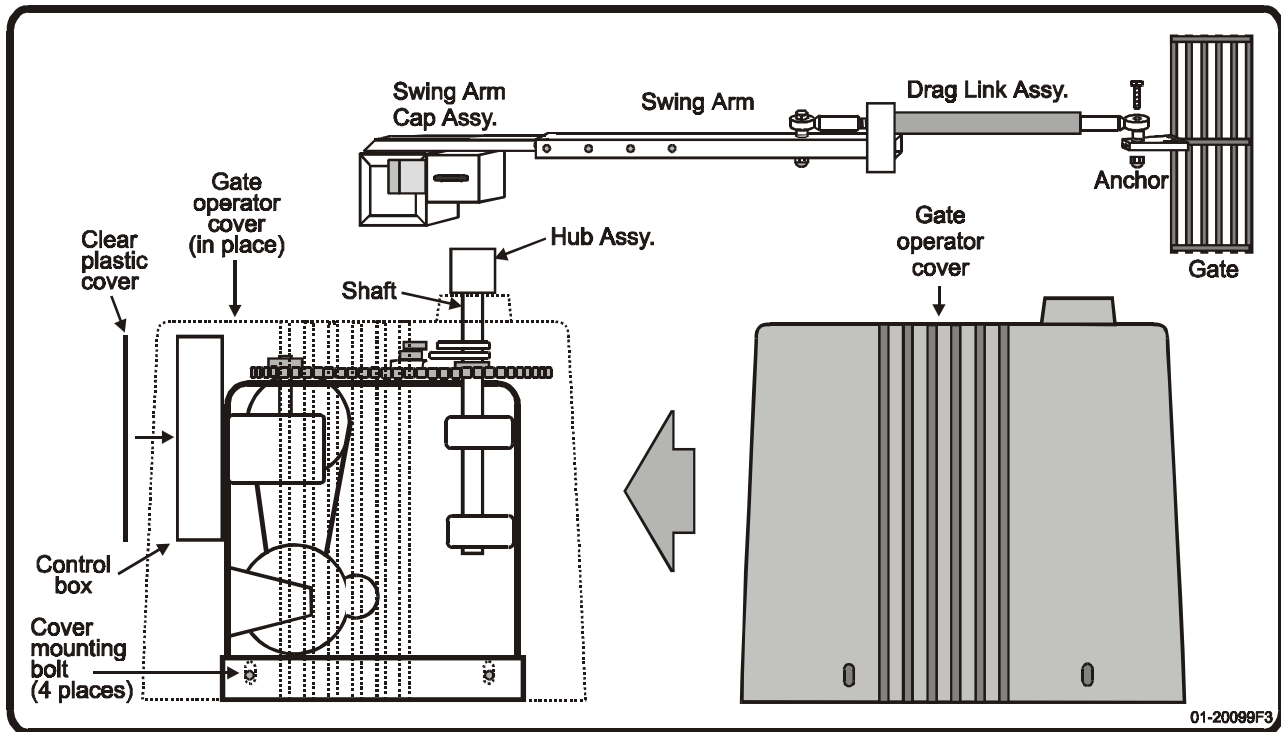

Figure 13. Gate Operator Final Assembly
- ◆ Refer to Figure 13, above, to perform the following instructions.